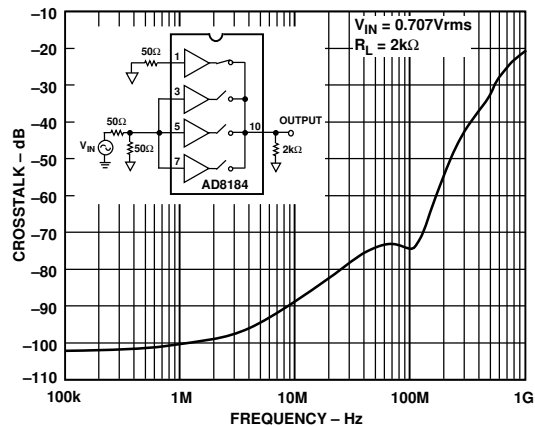

Figure 12. All-Hostile Crosstalk vs. Frequency
- 6Select an input that is not being driven (i.e., A0 and A1 are logic 0, IN0 is selected); drive all other inputs with VIN = 0.707 V rms and monitor the output at f = 5 and 30 MHz. RL = 2 kΩ (see Figure 12).